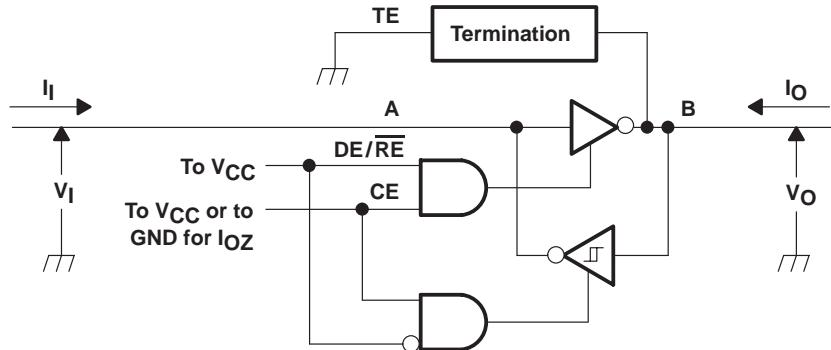

Figure 1. Driver Test Circuit Currents and Voltages.
**driver electrical characteristics over recommended operating conditions (unless otherwise noted) (see Figure 1)**